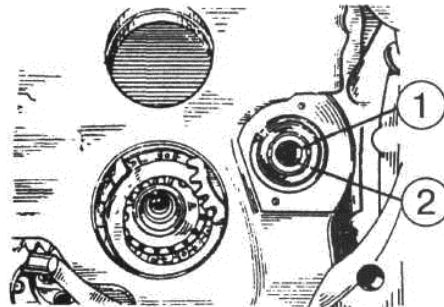

Figure 4.81
c) unscrew nut 1 (Figure 4.81) and remove cup 2;